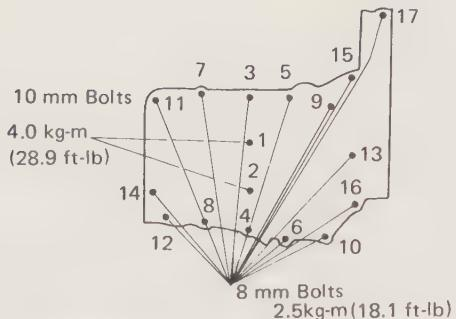

Fig. 6.25. Tightening sequence and torque for transmission case clamping bolts
- 15 Attach the clutch cable bracket and back-up lamp lead clip to the casing, fit the casing joining bolts and tighten them to the specified torque and in the sequence shown in Fig. 6.25.